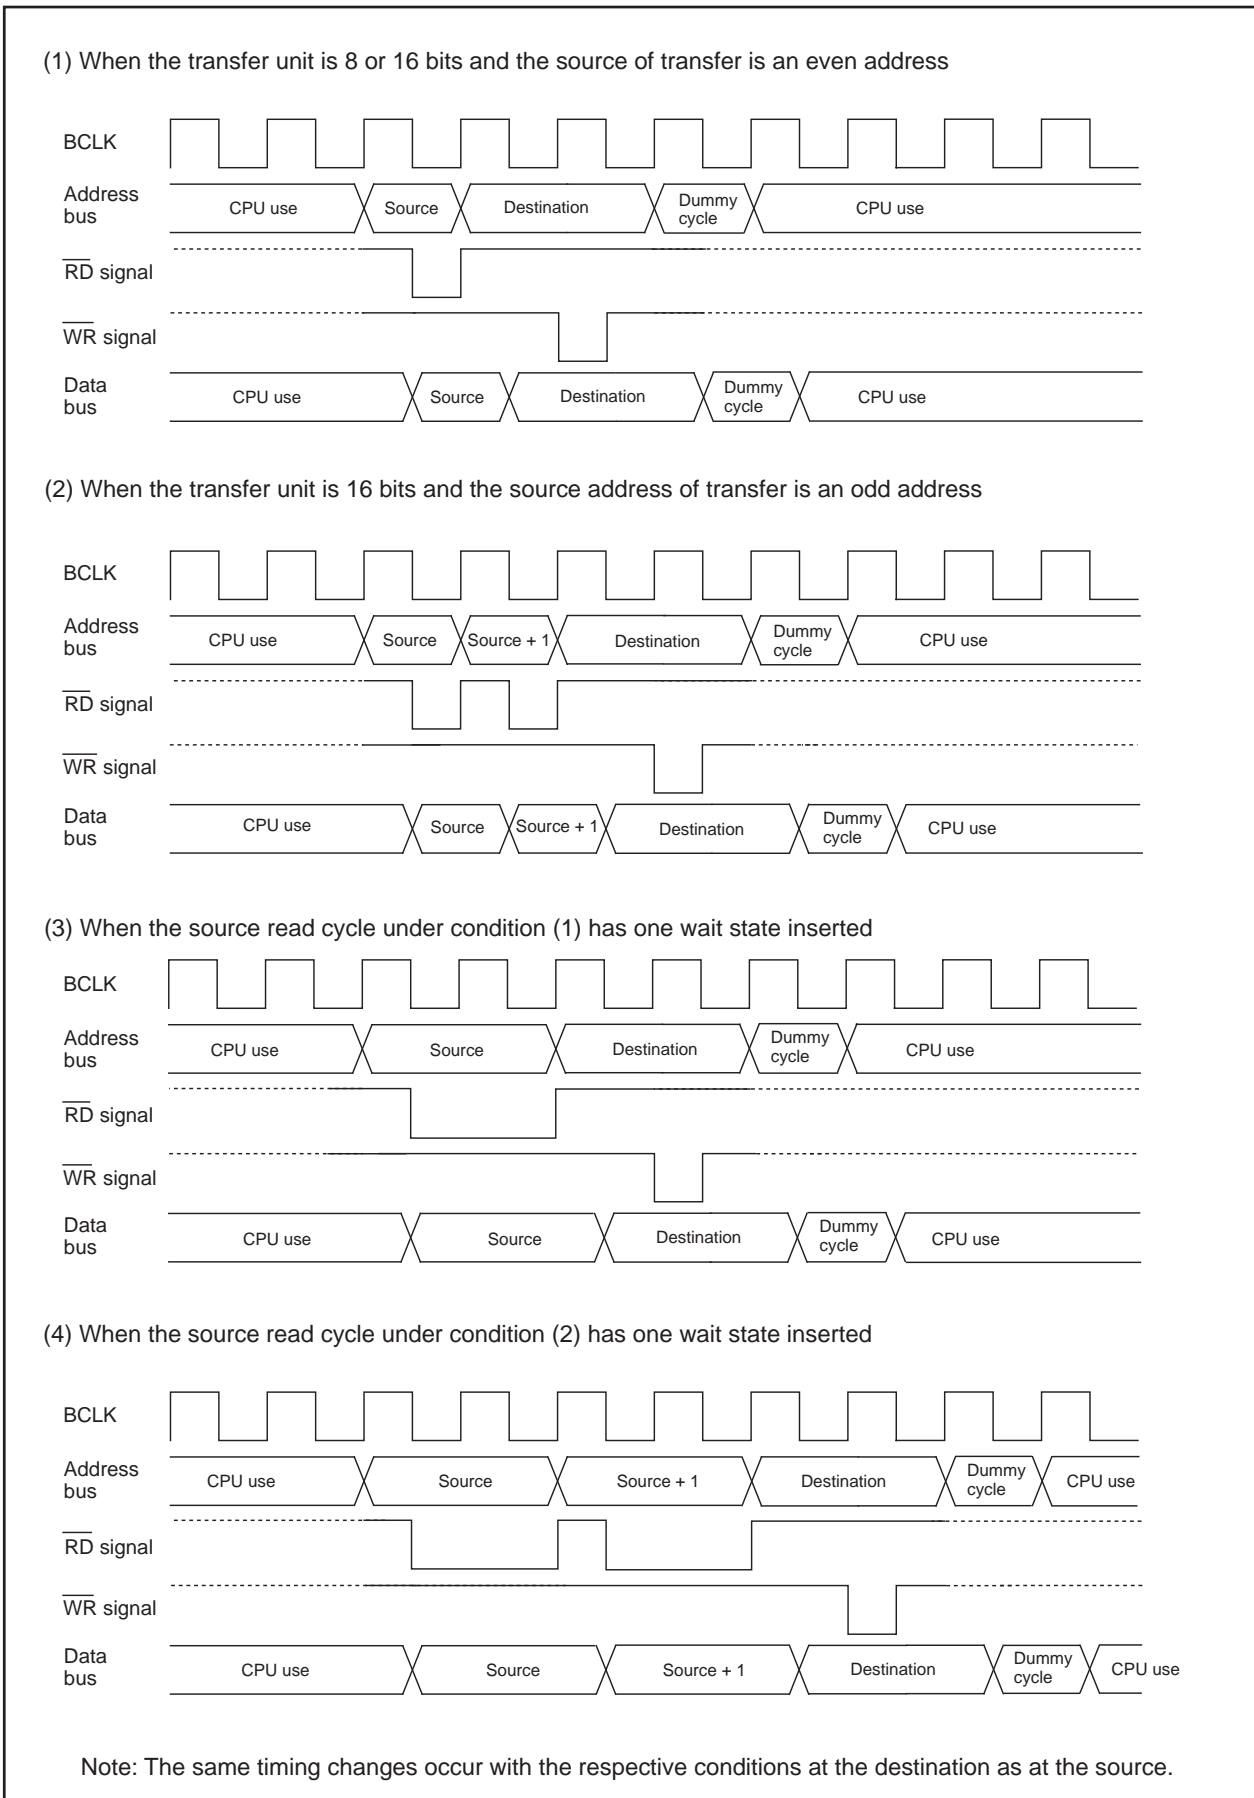

Figure 1.11.5. Transfer Cycles for Source Read
Figure 1.11.5 shows the example of the cycles for a source read. For convenience, the destination write cycle is shown as one cycle and the source read cycles for the different conditions are shown. In reality, the destination write cycle is subject to the same conditions as the source read cycle, with the transfer cycle changing accordingly. When calculating transfer cycles, take into consideration each condition for the source read and the destination write cycle, respectively. For example, when data is transferred in 16 bit units using an 8-bit bus ((2) in Figure 1.11.5), two source read bus cycles and two destination write bus cycles are required.